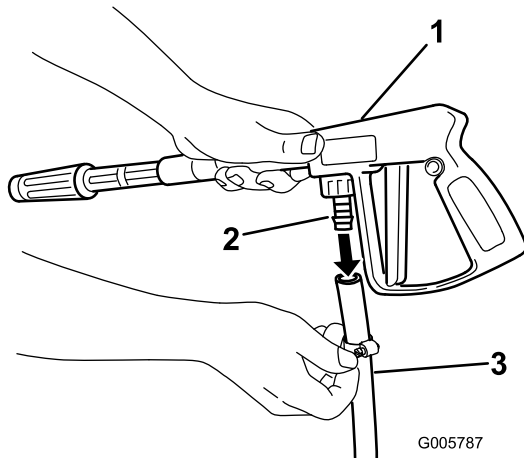

Figure 10
3. Remove any plugs in the free end of the hose. Then connect the long hose to the fitting on the gun (Figure 10).